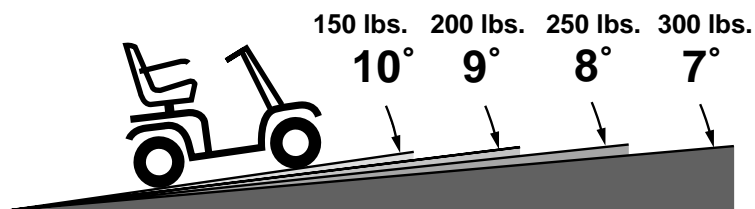

Figure 1. (Maximum Recommended Incline Angles)
**WARNING! Even though your scooter is capable of climbing slopes greater than those illustrated in figure 1, do not, under any circumstances, exceed the incline guidelines or any other specifications presented in this manual. Doing so could cause instability in your scooter, resulting in personal injury and/or damage to your scooter.**
Handicap public access ramps are not subject to government regulation in all countries, and therefore do not necessarily share the same standard percent of slope. Other inclines may be natural or, if man-made, not designed specifically for scooters. Figure 1 illustrates your scooter's stability and its ability to climb grades under various weight loads and under controlled testing conditions.
**WARNING! Any attempt to climb or descend a slope steeper than what is shown in figure 1 may put your scooter in an unstable position and cause it to tip, resulting in personal injury.**